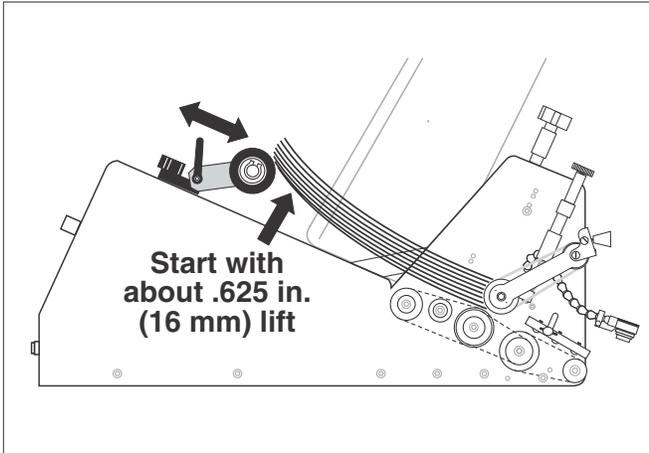
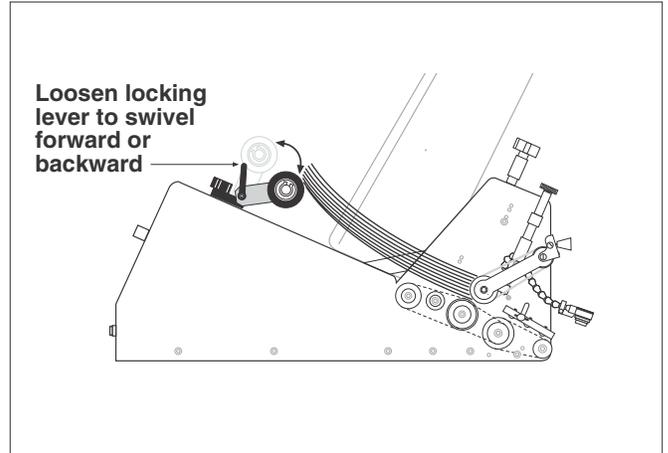

Figure 2-11. Adjusting Back Wedge
Figure 2-12. "Fine Tune" Adjusting Wedge
4. Move the back wedge forward and backward until the bottom sheet is not touching the table top (Figure 2-11). A good starting point is to measure about .625 in. (16 mm) from the bottom sheet to front edge of table top. Then as you test, you can “fine tune” from this point. *You can also fine-tune back wedge location by loosening the lever handle to pivot the “S” back and forth (Figure 2-12).*